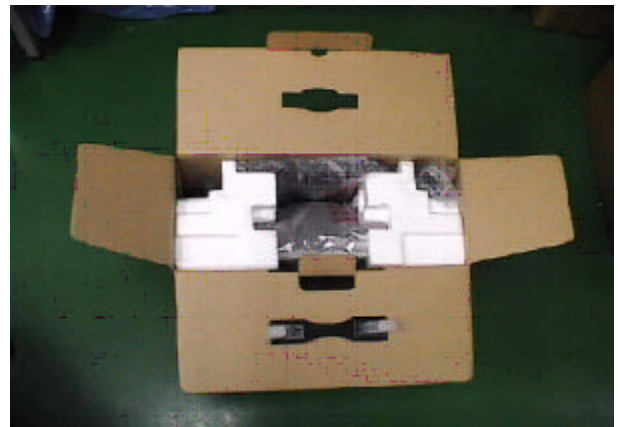

Figure 4
1.4 Place the monitor into the carton and then put all the accessories into the carton. As last, close the carton and seal it with tape. (Figure 4)